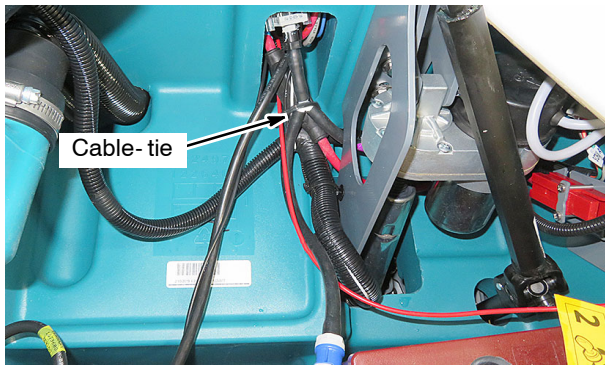

Fig. 11
13. Position the water delivery assembly as shown and secure it to wire harness with a cable-tie (Figure 11).